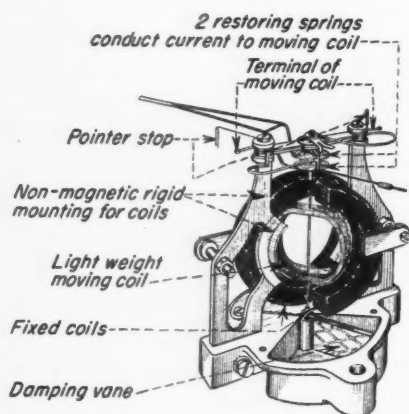

FIG. 2—Electrodynamometer mechanism.
2. Electrodynamometer Type. (Fig. 2)